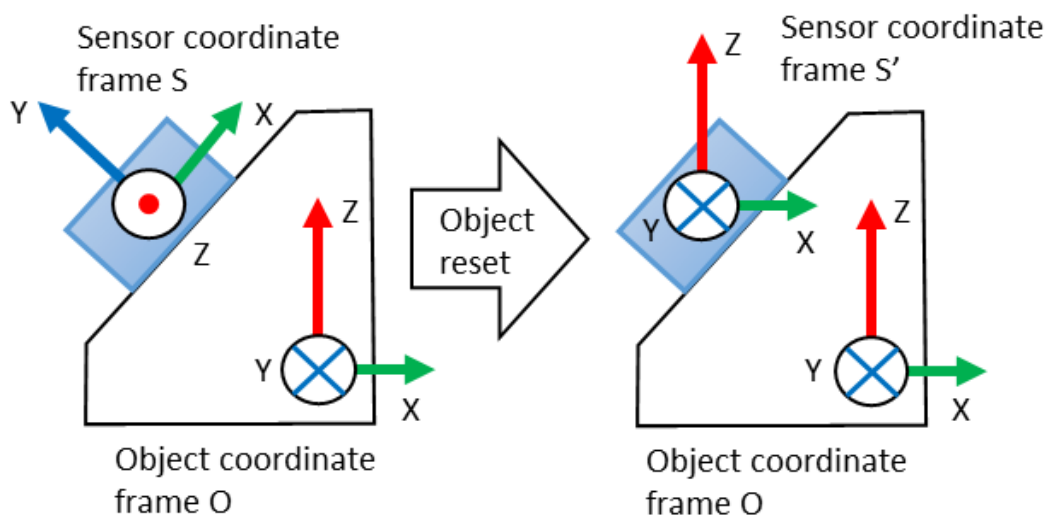

Fig. 1. Illustration of object reset
The object reset aligns the sensor coordinate frame to that of the object to which it is attached (see Fig. 1). The sensor must be attached in such a way that the X-axis is in the XZ-plane of the object coordinate frame, i.e. the sensor can be used to identify the X-axis of the object. To preserve the global vertical, the object must be oriented such that the object Z-axis is vertical. The object reset causes the new (S') coordinate frame and the object coordinate frame (O) to be aligned.